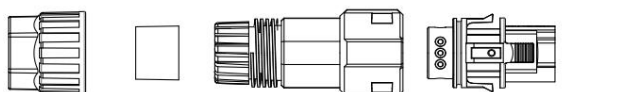

FIG.3 Componentes do conector
1) Diagrama do conector, conforme FIG.3.